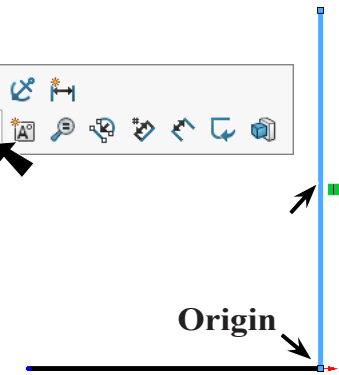

Fig. 2
Step 3. Click **Line**  (L) on the Sketch toolbar.
Step 4. Sketch **horizontal line across to Origin**  and **vertical line up**. Right click the vertical line and click **Construction Geometry**  on the context toolbar, **Fig. 2**.